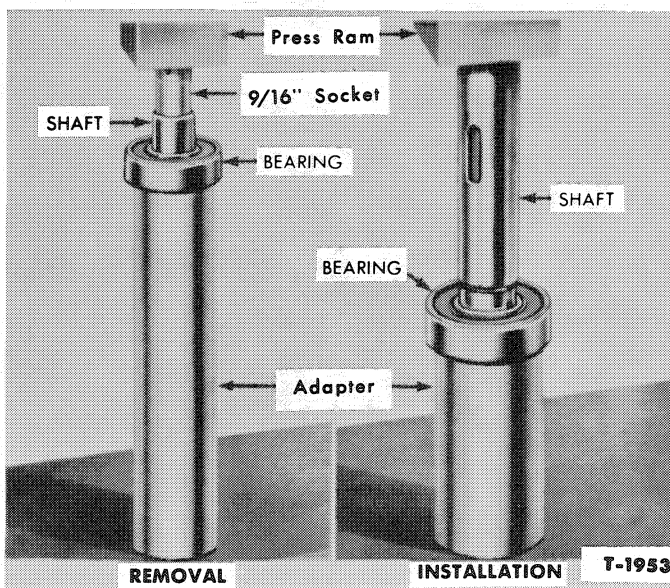

Figure 9—Rotor Shaft Bearing Replacement
12. Carefully Press or tap the rotor shaft and bearing from the pump body. Check both parts for excessive wear or other damage. If replacement is necessary, press the bearing off the shaft using an arbor press and an adapter which will bear against the bearing inner race, Figure 9.
3. Press the rotor shaft bearing onto the rotor shaft, as shown in Figure 9, until the bearing is seated against the shoulder on the shaft.